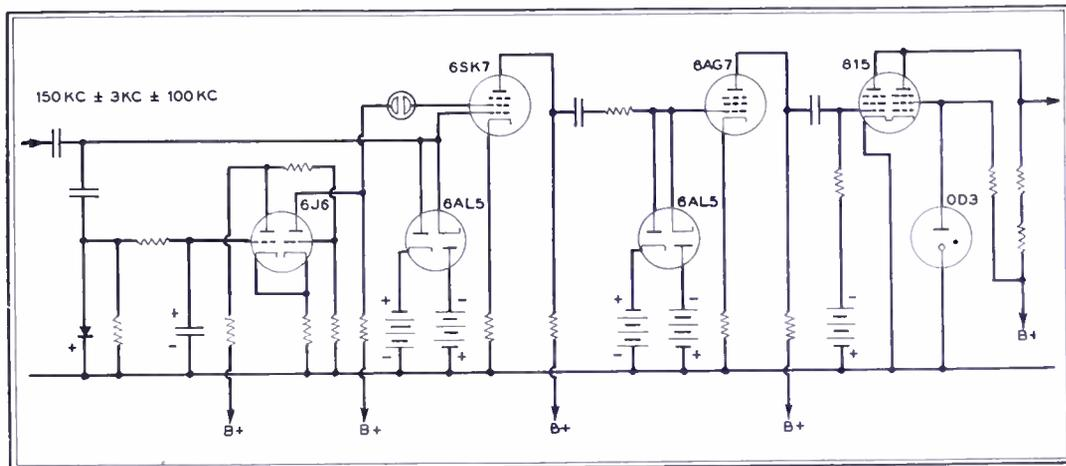

FIG. 5. MIXER OUTPUT SIGNAL GOES TO DIODE CLIPPERS AND LIMITING AMPLIFIERS
**Limiter-Amplifier** ★ The mixer output signal is amplified and passed through a series of diode clippers and limiting amplifiers to convert it into a square wave. These are shown in Fig. 5. To operate the limiters, a minimum input voltage level is required. A control tube keeps the final amplifiers inoperative until the output of the mixer is sufficient to provide a saturation signal to the limiters. Erratic behavior at low RF input levels is thus avoided, since the monitor automatically ceases operation when the signal level falls below a critical value.